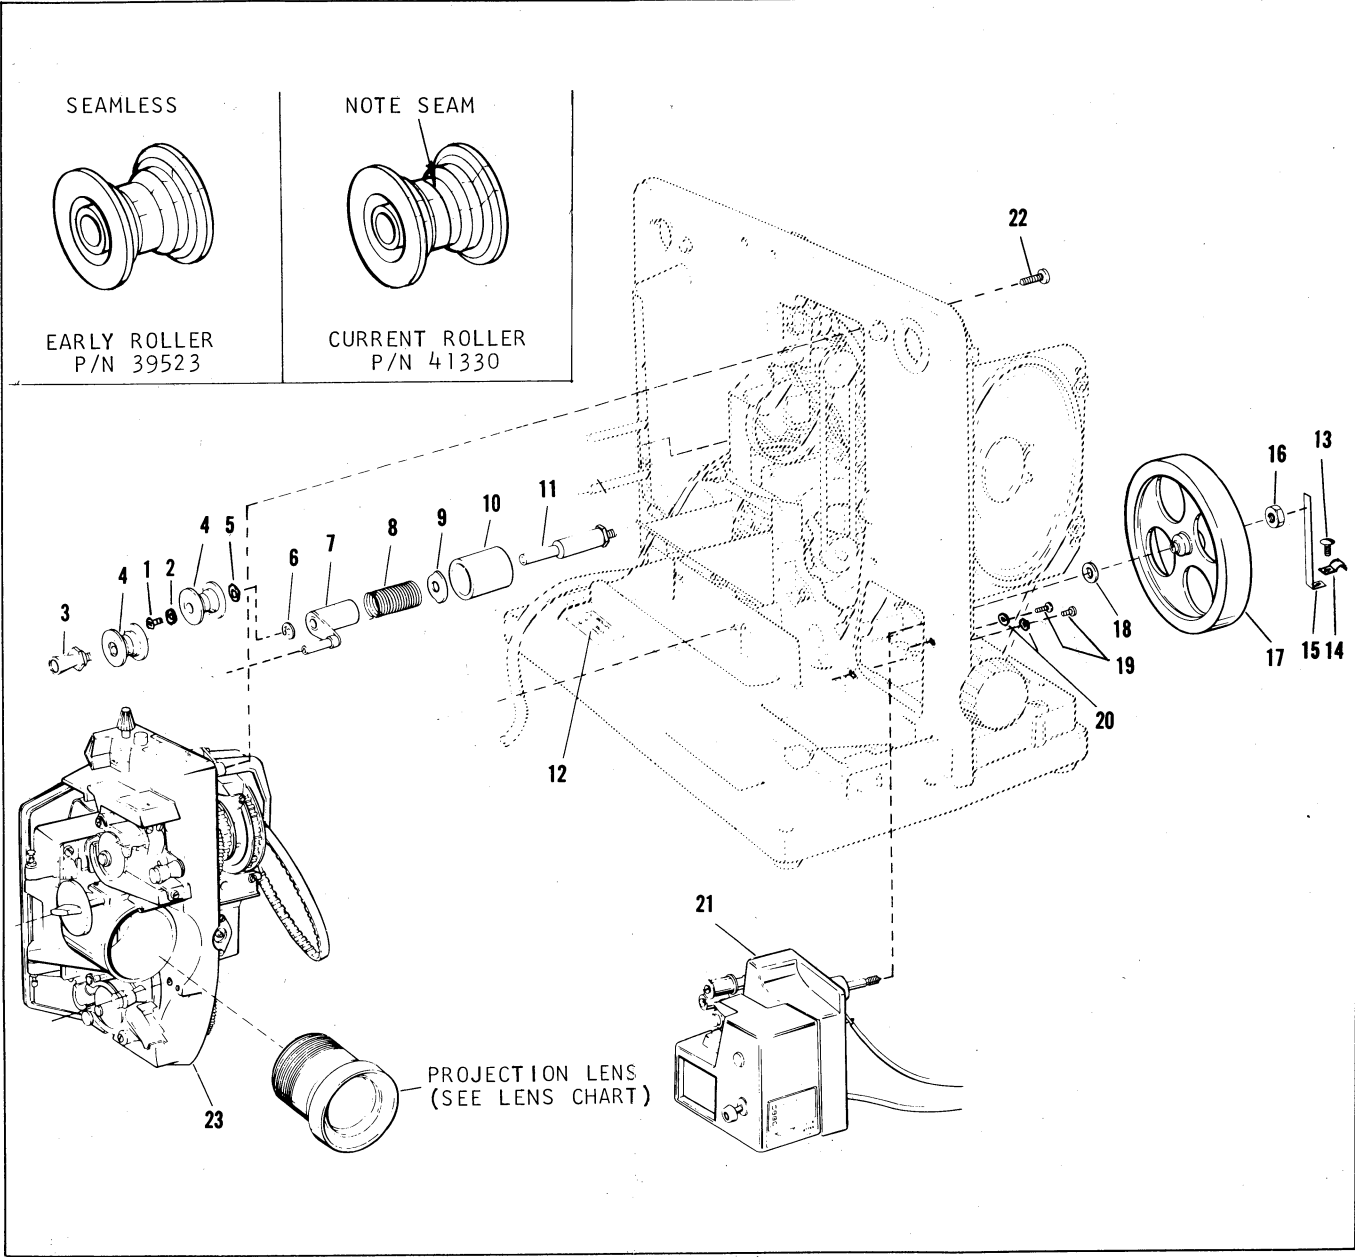

Figure 4. Projector Main Plate Components
NOTE A: Idler rollers #39523 and #41330 (item 4) are not interchangeable. Note in the Figure 4 inset that the current roller (#41330) has a center seam while the early style (#39523) is seamless. Early style rollers are available for replacement on early model projectors. However, when the stock of roller shaft assembly (#011939) (item 7) is depleted, the current shaft assembly (#012330) will be furnished, together with two of the new style rollers (#41330).